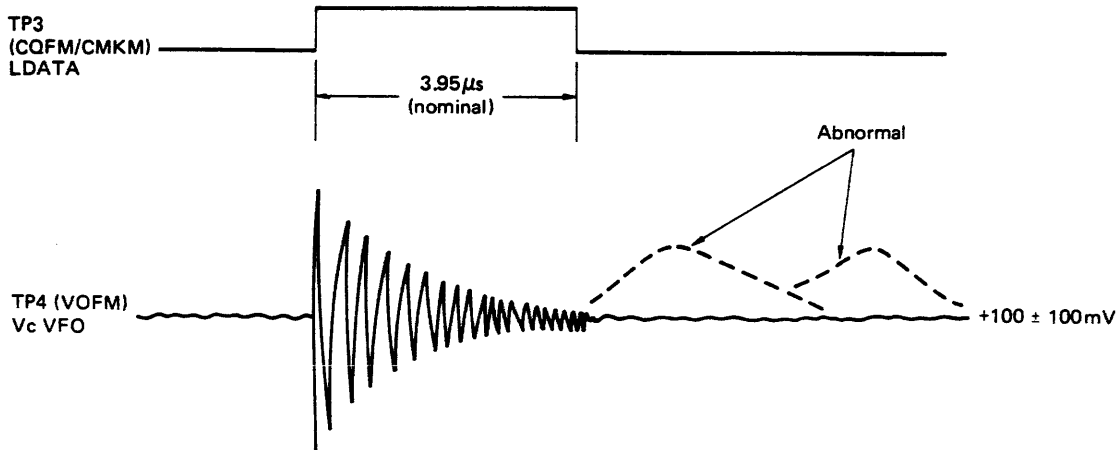

Figure 6-6-22 VFO Frequency Adjustment
5. After the adjustment confirm TP4 signal as shown in Figure 6-6-22 by enabling read operation. Trigger it with the positive-going edge of TP3 (LDATA: CQFM/CMKM PCB).